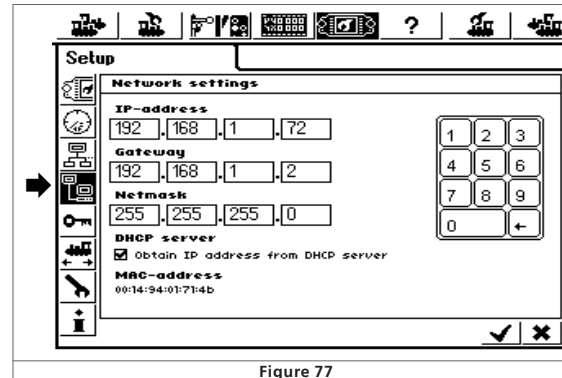

Figure 77
- Open the network set-up as per Figure 77.